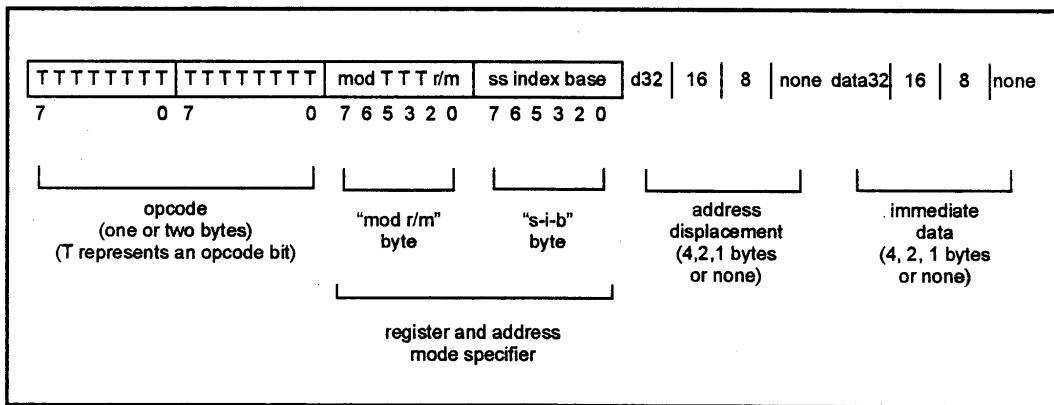

Figure E-1. General Instruction Format
All instruction encodings are subsets of the general instruction format shown in Figure E-1. Instructions consist of one or two primary opcode bytes, possibly an address specifier consisting of the “mod r/m” byte and “scaled index” byte, a displacement if required, and an immediate data field if required.
Figure E-1 illustrates several of the fields that can appear in an instruction, such as the mod field and the r/m field, but the figure does not show all fields. Several smaller fields also appear in certain instructions, sometimes within the opcode bytes themselves. Table E-2 is a complete list of all fields appearing in the instruction set. Following Table E-2 are detailed tables for each field.
**NOTE:** Figure E-1 shows encoding of individual instructions.
The primary addressing byte, the "mod r/m" byte, also contains three bits (shown as TTT in Figure E-1) sometimes used as an extension of the primary opcode. The three bits, however, may also be used as a register field (reg).